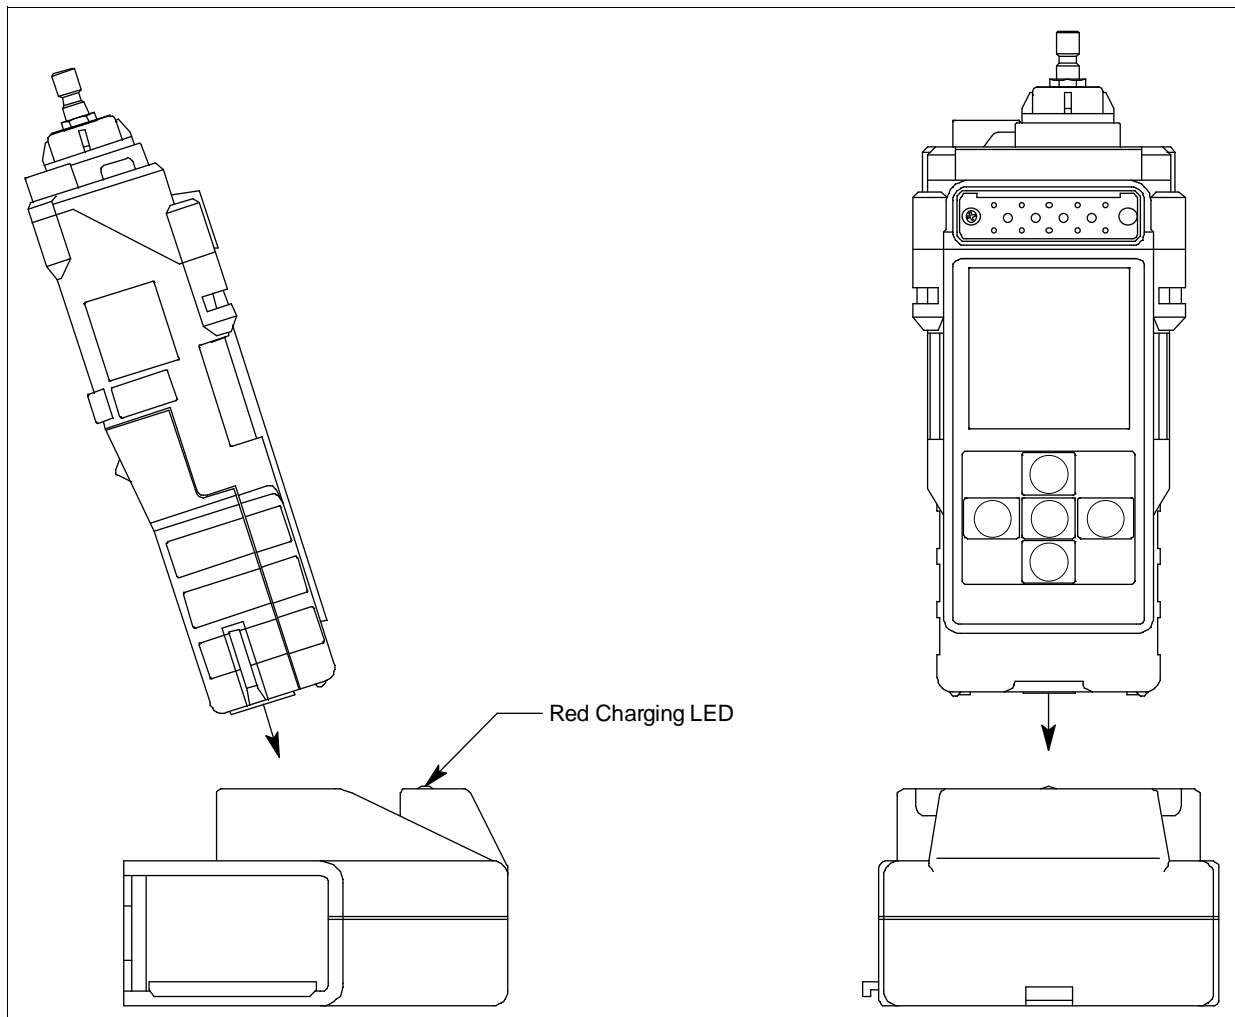

Figure 24: Putting the Gas Tracer into the Charging Station
4. Place the Gas Tracer into the battery charging station as shown in Figure 24 below so that the metal contacts on the back of the unit come into contact with the metal contacts on the back of the holder in the charging station. When proper contact has been made, the red LED on the charging station will turn on.